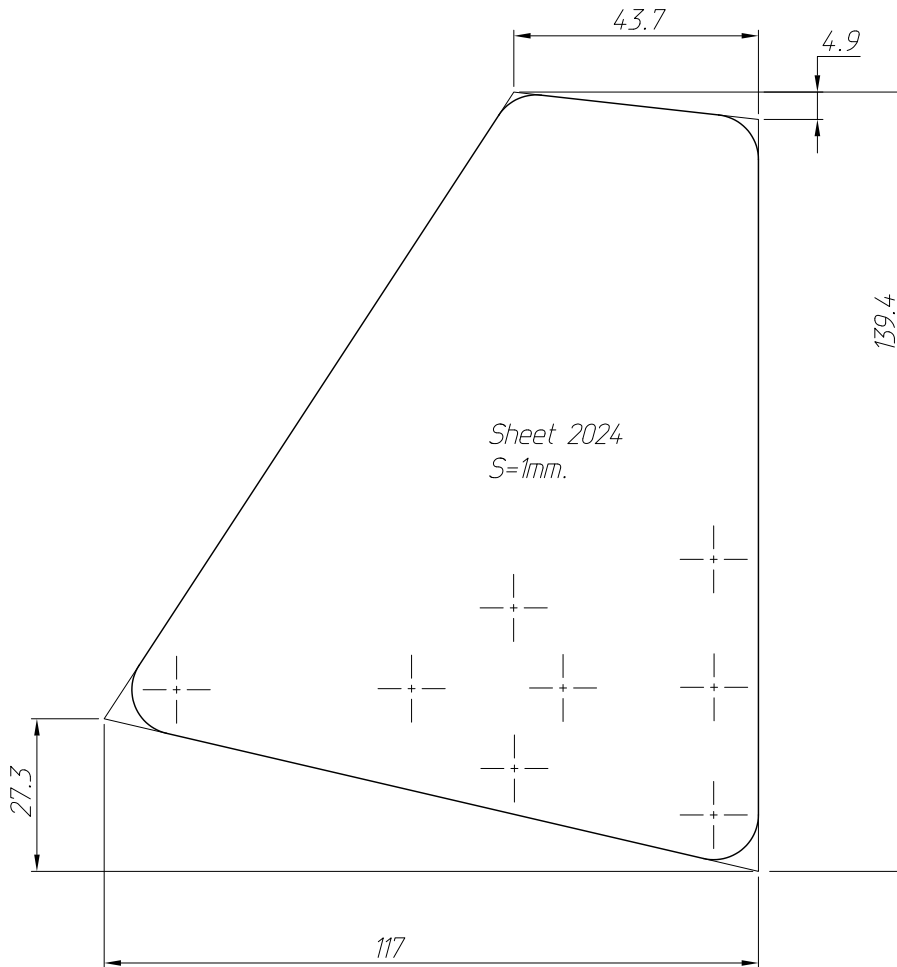

Fig. 12.
- 3.2. Make doublers of aluminum sheet 1 mm thick using the template of fig.12, mark the rivet holes and bend the doublers so that they fit to the tail boom contour on the left and right sides.